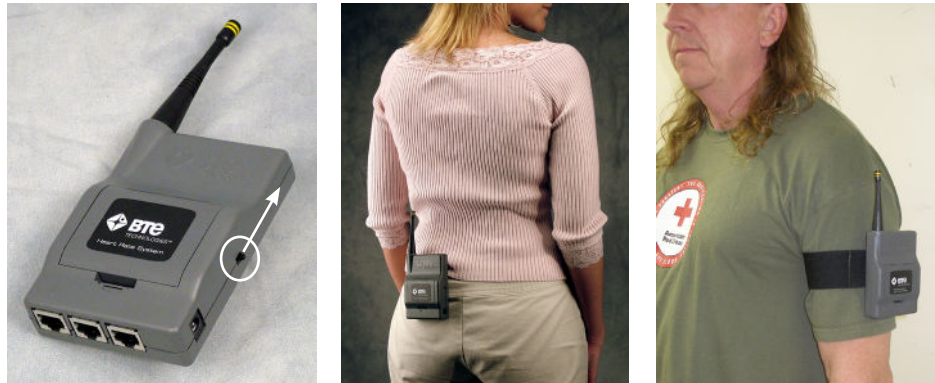

Figure 2-3. Transmitter Power Switch and Attached to Back of Client or Left Arm
- Step 3. Make sure the batteries are in the Transmitter and turn the Transmitter on using the switch on the side farthest from the antenna (Figure 2-3). Be sure the batteries are charged; otherwise, the system will give inconsistent results.
- Step 4. Have the client place the Transmitter on the left back of his or her pants at belt-line level or on the upper left arm with a Velcro strap. These are the optimal positions since they prevent the Transmitter from obstructing movement during the tests (Figure 2-3). Ensure that the Transmitter will be less than 2 feet from the Polar Monitor during all activities.
- Attach a Velcro strap around the patient's upper left arm, and secure the Portable Dock to the strap (Figure 2-3).